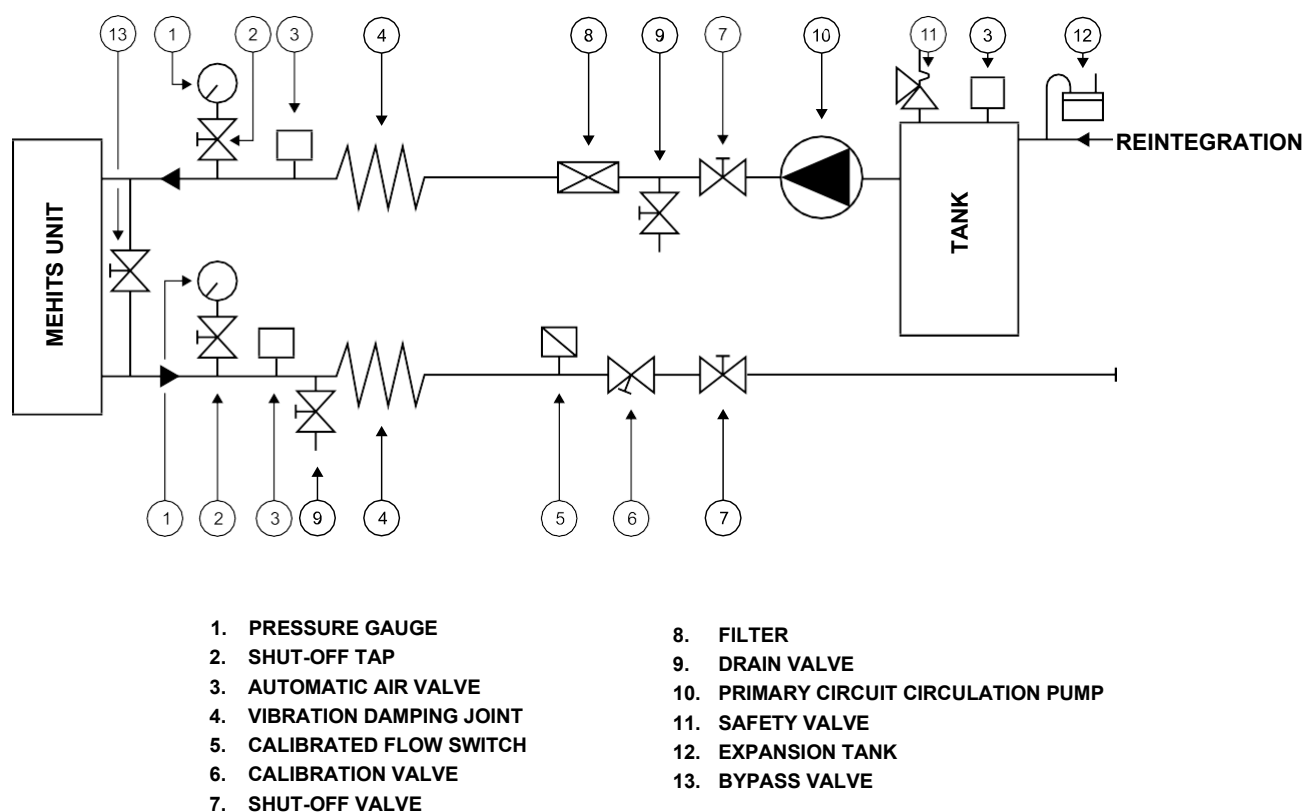

Figure 7.1: Evaporator/recovery unit water circuit diagram.
The evaporator and the recovery unit must be installed on the water circuit of the heat exchangers. Particular attention must be paid to the correct positioning of the following components (fig. 7.1):
- All other equipment listed in fig. 7.1.